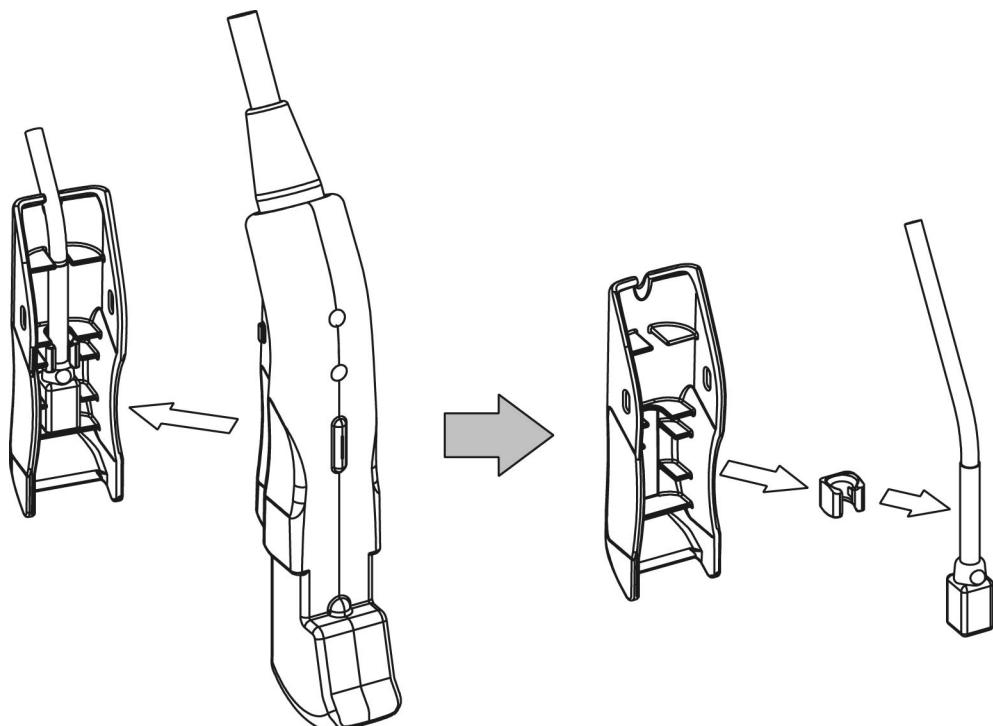

Fig. 17 How to release the Magnetic Sensor from the groove of the probe
- 2) Release the Magnetic sensor from the groove of the attachment as shown in Fig. 17 and release the Spacer for EZU-RV2S from the Magnetic sensor.